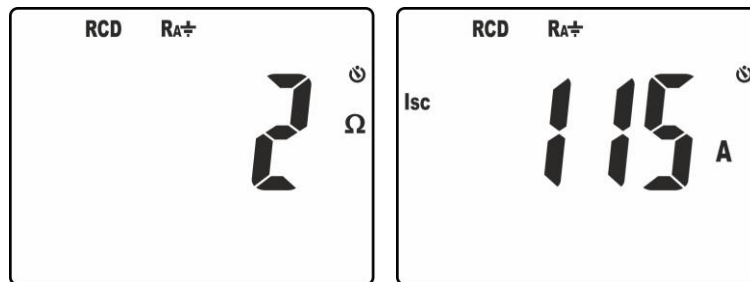

Fig. 22: Results of measurement of overall earth resistance
9. The screen in Fig. 22 – left side shows the value of overall earth resistance. Press keys $\blacktriangledown/\text{⏻}$ or \blacktriangle to display the value of assumed short-circuit current **Isc** (see § 9.3)